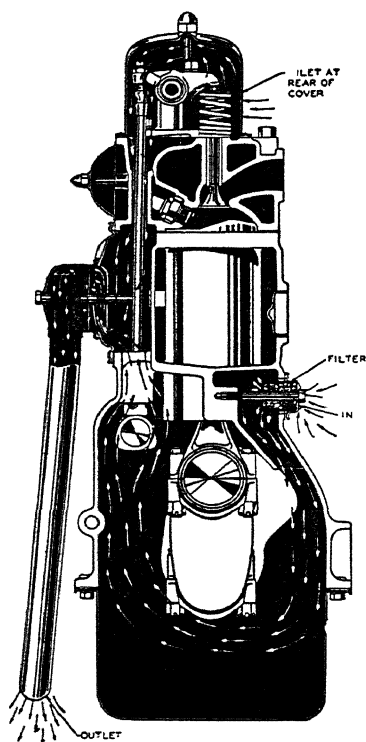

Fig. 4. Buick Dyna-Flash Engine Ventilating System
**Engine Ventilating System.** The rotation of the crankshaft within the crankcase, as shown in Fig. 4, is utilized as a blower to force fuel and water vapors from the crankcase through a ventilator outlet pipe welded to the valve lifter compartment cover.